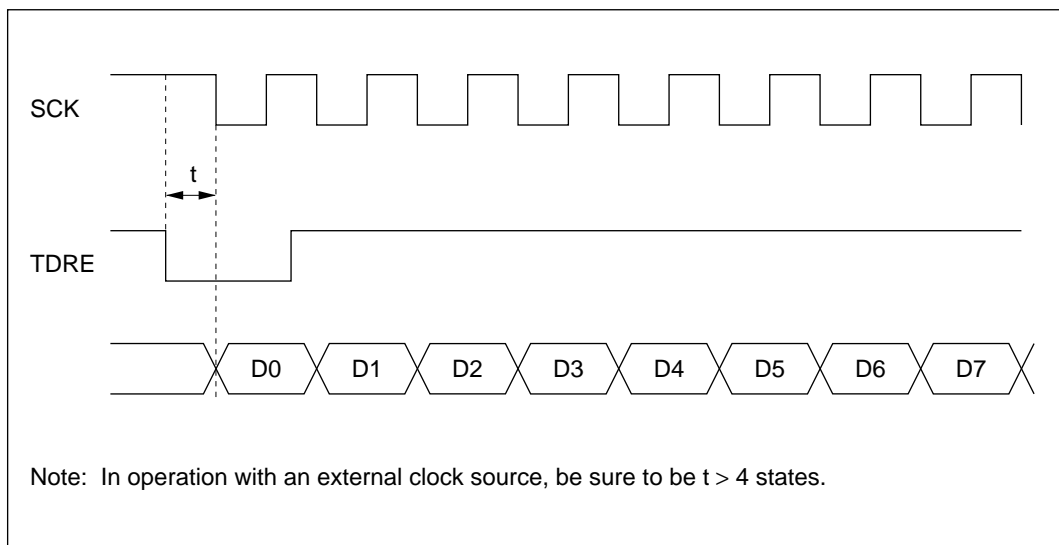

Figure 13-22 Synchronous Transmission Using DMAC (Example)
- When an external clock source is used for the serial clock, after the DMAC updates TDR, allow an interval of at least five system clock (ϕ) cycles before input of the serial clock to start transmitting. If the serial clock is input within four states of the TDR update, a malfunction may occur. (See figure 13-22.)